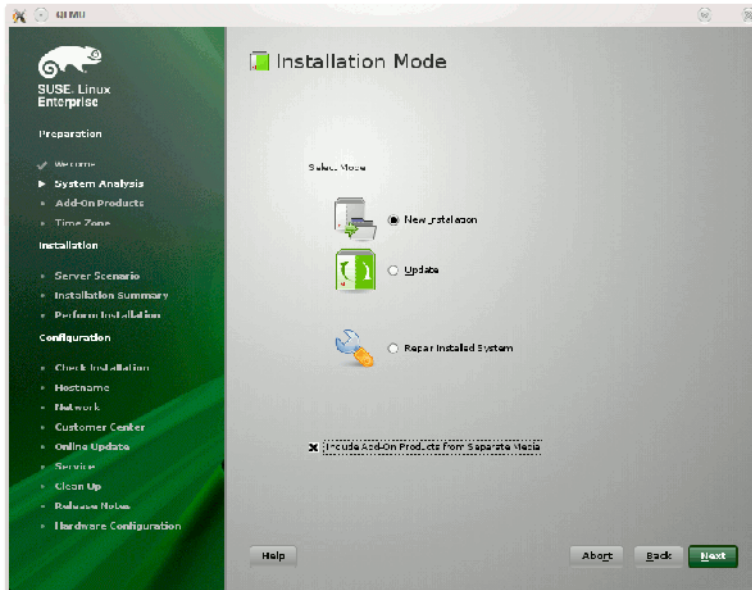

Figure 1-16 SLES11 Installation Mode Screen
2. Follow the steps in the *SUSE Linux Enterprise Server 11 Installation Quick Start*. When you get to the **Installation Mode** screen, as shown in Figure 1-16 on page